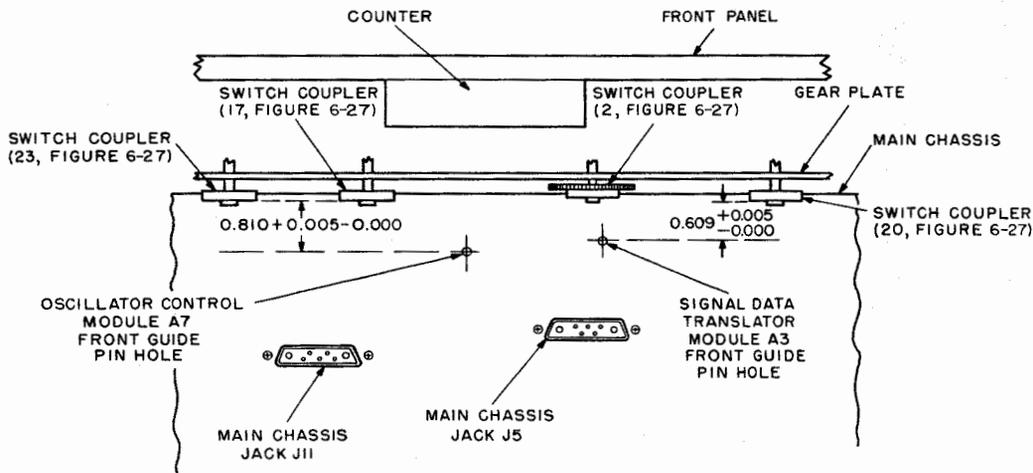

Figure 6-28. Frequency Selector Control Switch Coupler Alignment
(q) All gears should now be meshed. Loosen the megacycle knob collar clamps (mounted on first switch coupler shaft on right as viewed from rear). Separate gears (18, 19). Turn switch coupler (20) so that its driving boss is vertical within ± 0.5 degree. Position the switch coupler so that the distance between the major rear flat surface of the coupler and the centerline of the front guide pin hole (on the main chassis) for Signal Data Translator CV-1377()/PRC-47 (A3) is $0.609 \begin{matrix} +0.005 \\ -0.000 \end{matrix}$ inch. (See figure 6-28.) Tighten both collar clamps on the switch coupler shaft.
(r) Loosen both collar clamps mounted on shaft of switch coupler (23) and separate gears (21, 22). Adjust switch coupler (23) so that its driving boss is vertical within ± 0.5 degree. Position the switch coupler so that the distance between the major rear flat surface of the coupler and the centerline of the front guide pin hole (on the main chassis) for Oscillator Control C-4311/PRC-47 (A7) is $0.810 \begin{matrix} +0.005 \\ -0.000 \end{matrix}$ inch. (See figure 6-28.) As stated in the note in step (q), this coupler may also be adjusted and secured in position with its mating coupler on the oscillator control module, but such an adjustment will not be satisfactory for all replacement oscillator control modules.